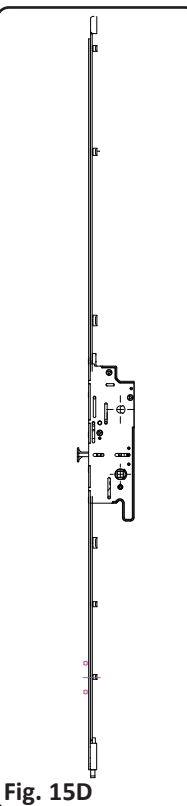

Fig. 15D
- A 2-point shoot bolt (Fig. 15D)